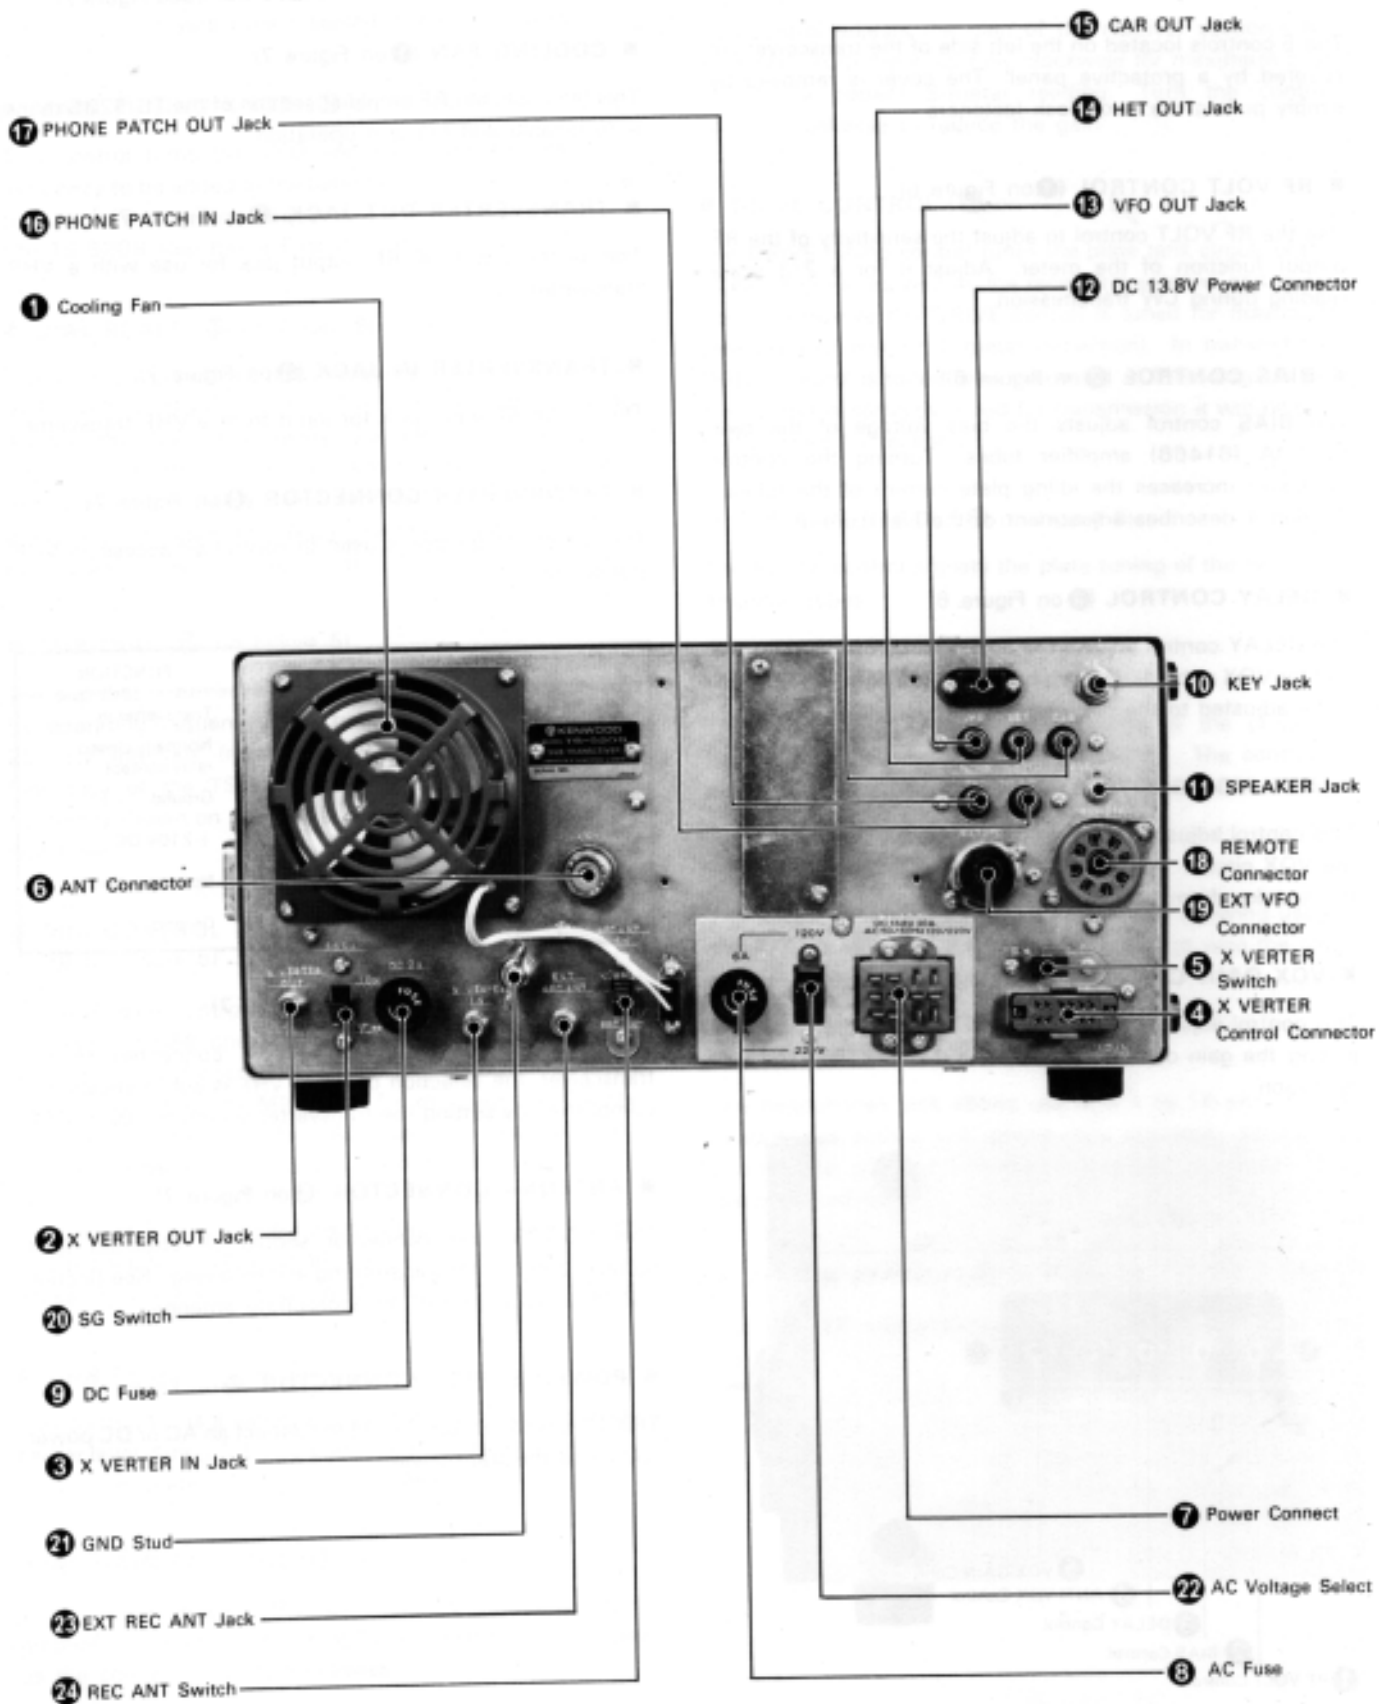

Fig. 7 Rear Panel Controls
### 3.3 REAR PANEL CONTROLS (See Figure 7)
#### ■ COOLING FAN (1 on Figure 7)
#### ■ TRANSVERTER OUT JACK (2 on Figure 7)
#### ■ TRANSVERTER IN JACK (3 on Figure 7)
#### ■ TRANSVERTER CONNECTOR (4 on Figure 7)
#### ■ XVERTER SWITCH (6 on Figure 7)
#### ■ ANTENNA CONNECTOR (6 on Figure 7)
#### ■ POWER SUPPLY CONNECTOR (7 on Figure 7)
■ **AC FUSE** (③ on Figure 7)
■ **DC FUSE** (④ on Figure 7)
■ **KEY JACK** (⑩ on Figure 7)
■ **SPEAKER JACK** (⑪ on Figure 7)
■ **13.8V DC CONNECTOR** (⑫ on Figure 7)
■ **VFO OUT JACK** (⑬ on Figure 7)
**HET OUT JACK** (⑭ on Figure 7)
**CAR OUT JACK** (⑮ on Figure 7)
■ **PHONE PATCH IN JACK** (⑯ on Figure 7)
■ **PHONE PATCH OUT JACK** (⑰ on Figure 7)
■ **REMOTE CONNECTOR** (⑱ on Figure 7)
■ **EXTERNAL VFO CONNECTOR (19 on Figure 7)**
■ **SG SWITCH (20 on Figure 7)**
■ **GND (Ground) LUG (21 on Figure 7)**
■ **AC VOLTAGE SELECT SWITCH (22 on Figure 7)**
■ **EXTERNAL RECEIVER ANTENNA JACK (23 on Figure 7)**
■ **RECEIVER ANTENNA SWITCH (24 on Figure 7)**